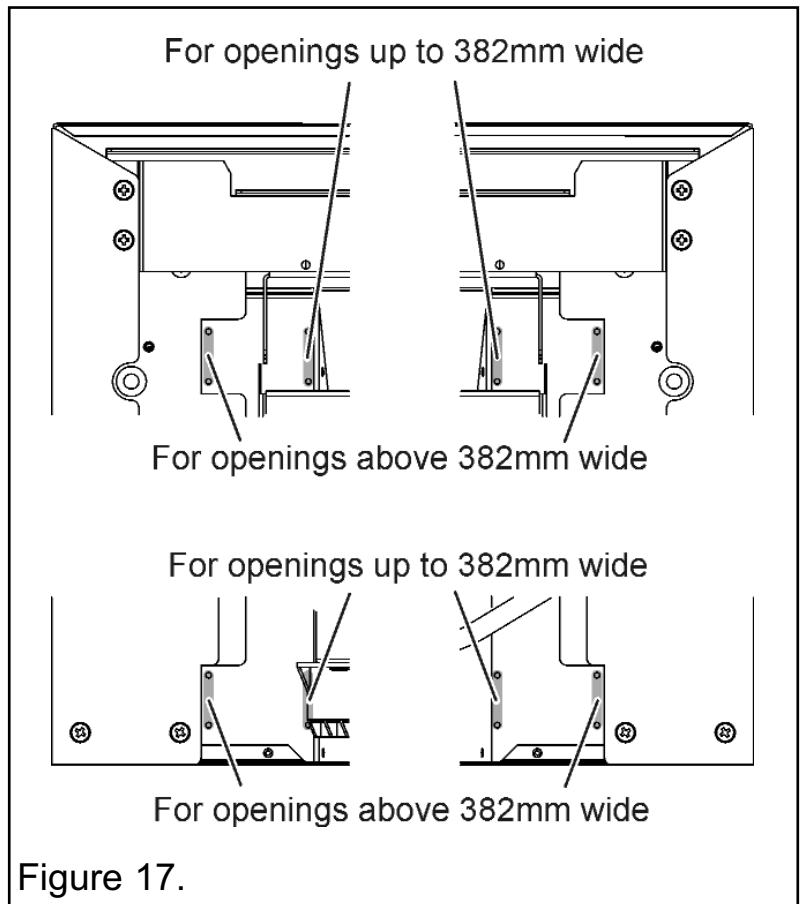

Figure 17.
5. The fire has eight pairs of small holes for cable securing, only four will be used. For openings up to 382mm wide use the inner set of holes. For openings above this use the outer holes (See figure 17). Once the upper pairs of holes are selected, feed approximately 100mm of cable from the rear of the fire through the upper